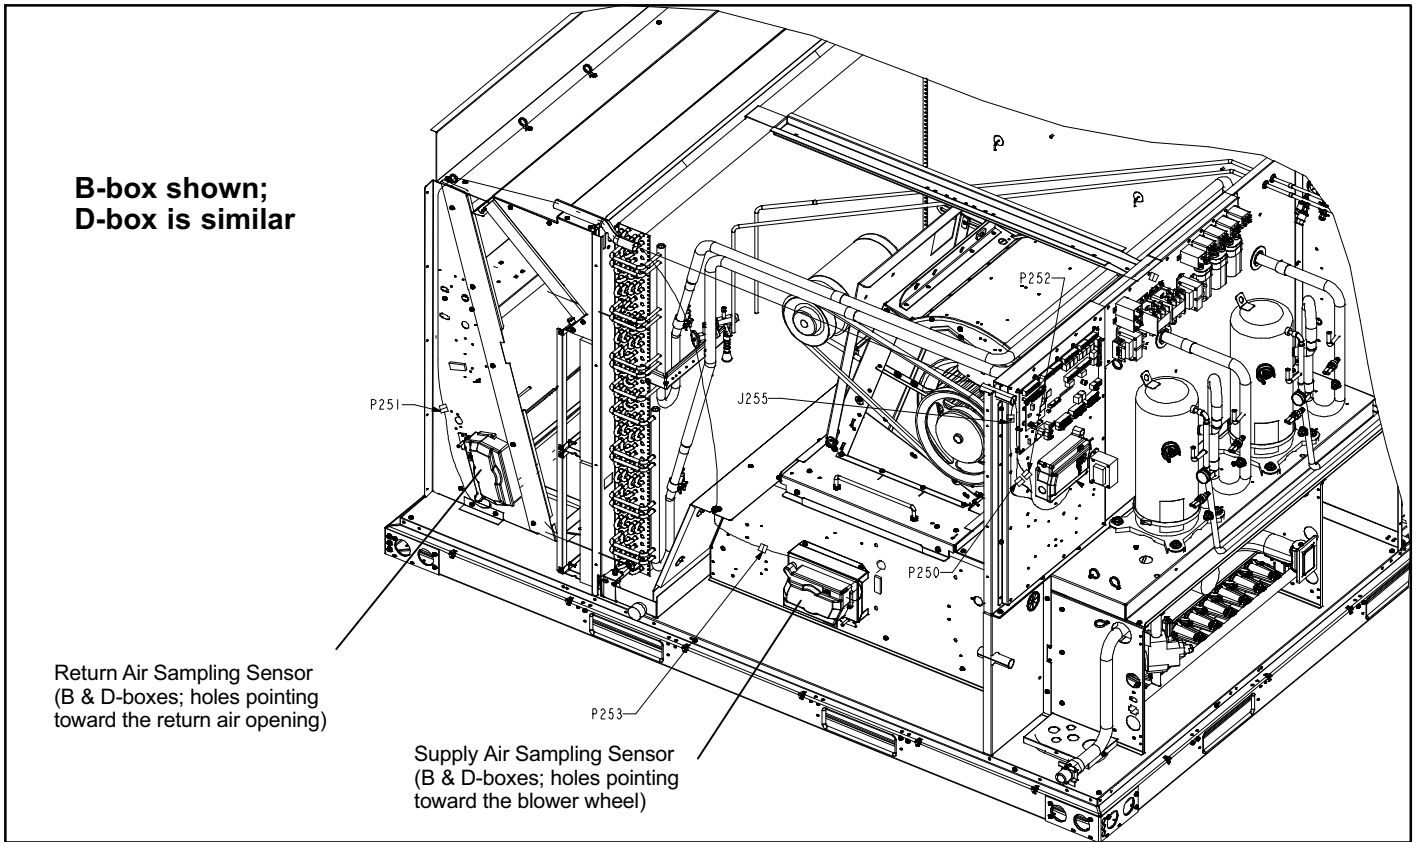

Figure 1. Smoke detector sensor locations
4. Secure sensor heads in proper location with #10-16 screws provided (see figure 1).